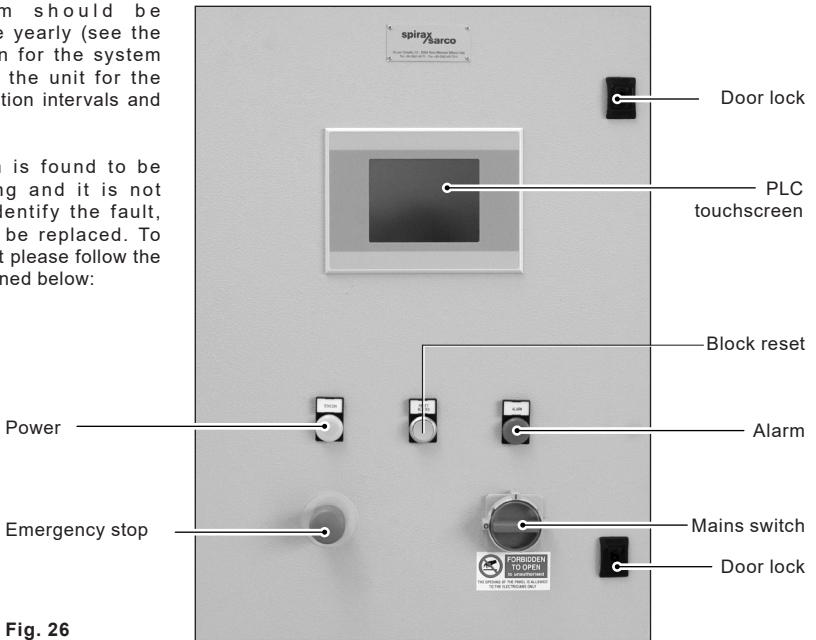

Fig. 26
5.4.14 Control cabinet - Figure 26